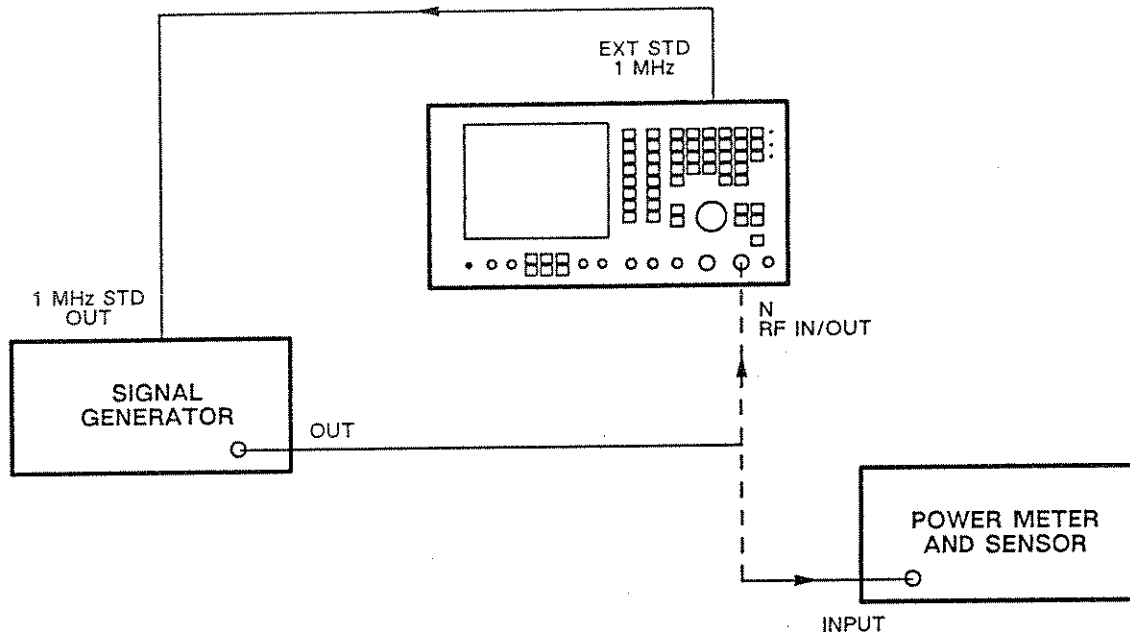

Fig. 6-10 Test equipment connections for RF frequency meter input sensitivity
- (1) Connect the signal generator 1 MHz standard output to the EXT STD 1 MHz socket. Connect the power meter through its sensor to the signal generator variable output. See Fig. 6-10.
- (2) On the 2955B, set TRANSMITTER TEST mode and the RF IN/OUT socket to N.
- (3) Set the signal generator carrier frequency to 100 MHz and modulation to off.
- (4) On the signal generator, adjust the RF level to give a reading of 5 mW on the power meter.
- (5) Transfer the signal generator variable output to the RF IN/OUT N socket.
- (6) Check that the RF frequency meter is locked and stable and that the reading is the same as the signal generator setting ± 10 Hz.
- (7) Transfer the signal generator variable output to the power meter.
- (8) Repeat (3) to (6) for other frequencies from 1.5 to 1000 MHz.